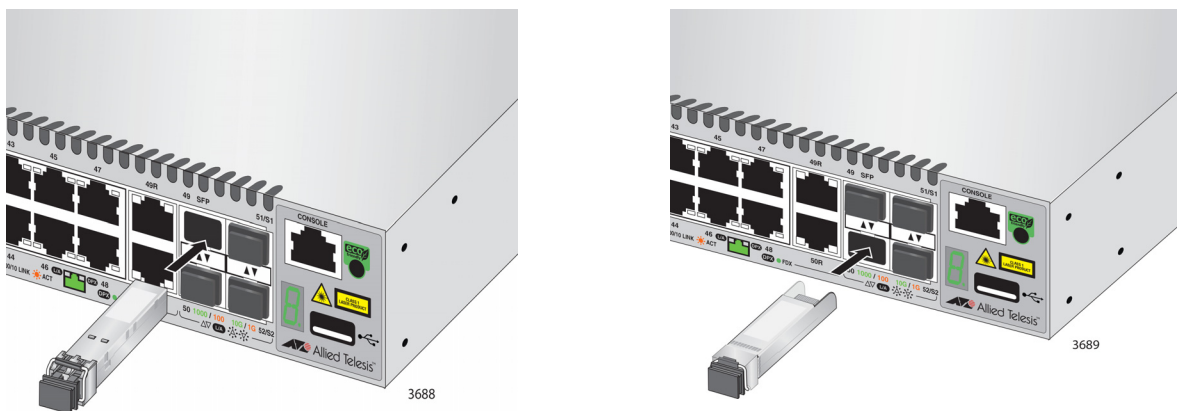

Figure 41. Installing an SFP Transceiver
4. Slide the transceiver into the slot until it clicks into place. See Figure 41.